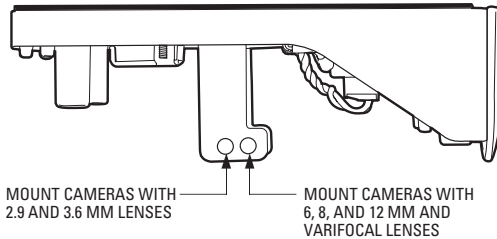

Figure 8. Camera Installation
1. Reinstall the camera module. Refer to Figure 8. Make sure the top of the camera is oriented properly. On the lens housing, look for the label that says TOP.